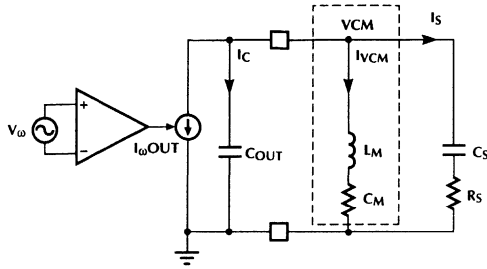

Figure 2. AC Equivalent Circuit for Current Amplifier, Voice Coil Motor (VCM) and Snubber.
2. An RC compensation network should be used to cancel the zero presented to the output by the L/R of the voice coil motor as shown in figure 2.
Figure 2 shows the equivalent AC circuit for the current amplifier.
Tuning the current loop response can be easily done by simulating the network in figure 2 with a computer simulator (such as SPICE).